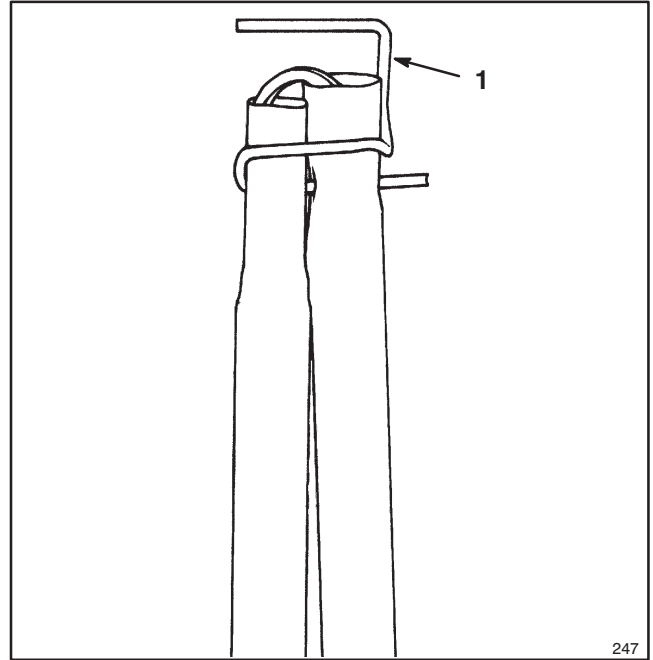

Figure 1
1. Remove the shipping wire secured to the upper and lower tube sections (Fig.1).